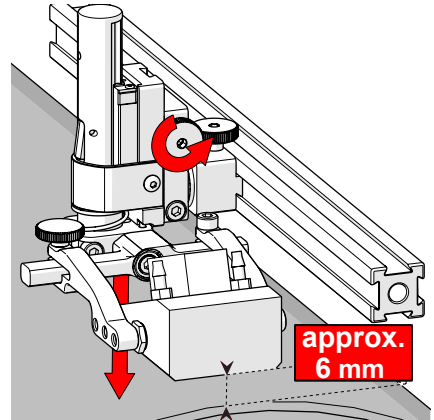

Fig. 149 - Lower toward scan surface
3. Tighten the vertical adjustment knob (Fig. 149).